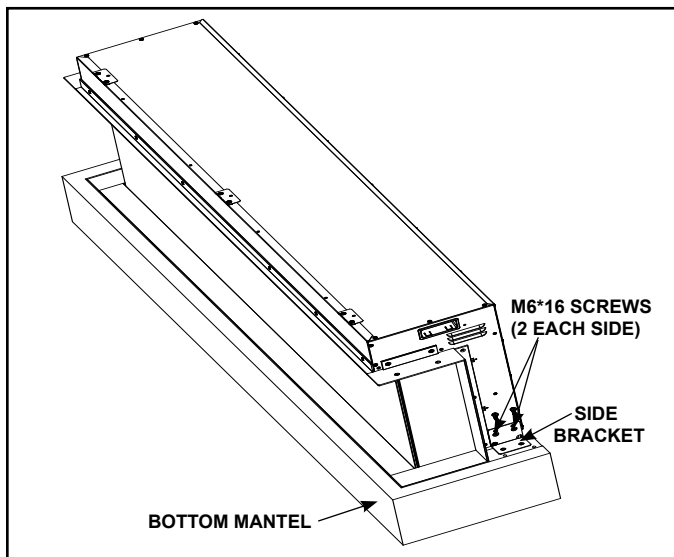

Figure 14
6. Secure the bottom mantel to the side brackets using two (2) M6*16 screws. See Figure 14.